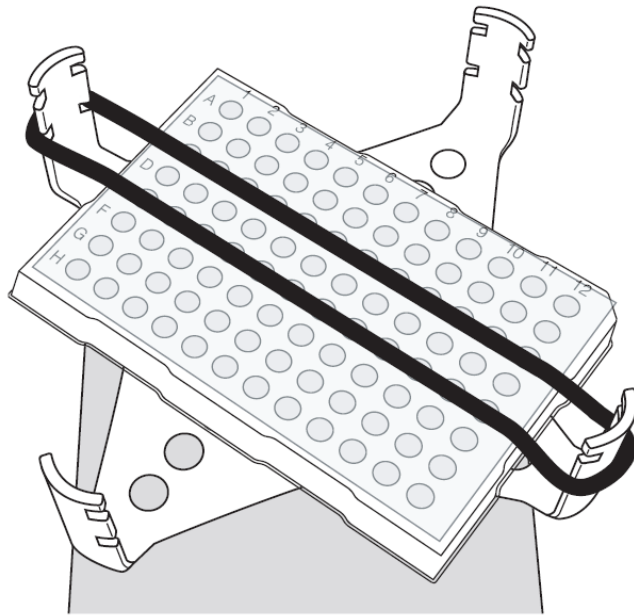

Figure 6 Recessed platform adapter: Elastic band position for 96-well plates
- For 96-well plates—See Figure 6.